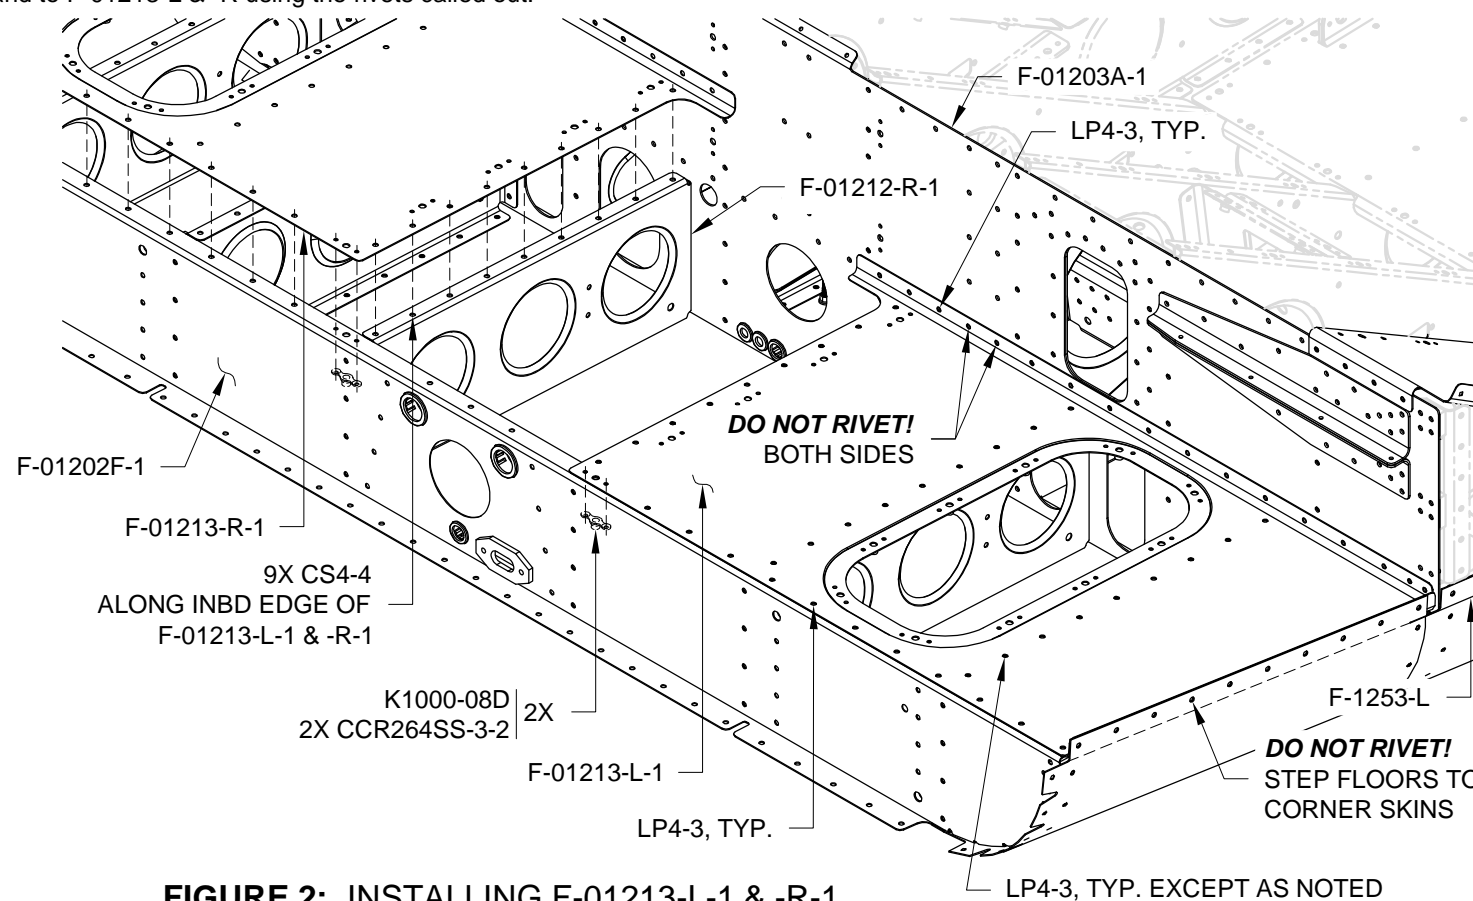

FIGURE 2: INSTALLING F-01213-L-1 & -R-1
Step 4: Turn the fuse right side up then rivet F-01213-L-1 & -R-1 to F-01202F-1, F-01212-L-1 & -R-1, and F-01203A-1, except as noted, using the rivets called out in Figure 2. Be sure to capture the two holes in the front flange of F-1253-L & -R when riveting the two outbd holes of F-01213-L-1 & -R-1 to F-01203A-1.